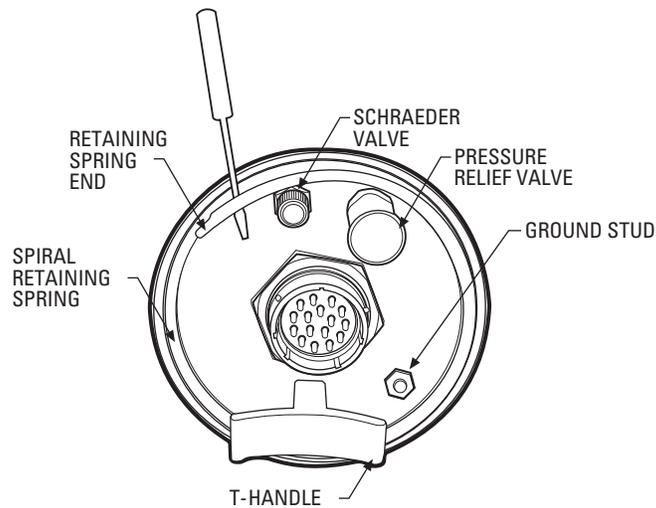

Figure 1. EH8100 Series Enclosure - Rear View
5. Remove the cap from the Schraeder valve (refer to Figure 1).
7. Remove the rear plate of the enclosure (refer to Figure 1) and do the following:
3. Remove the Schraeder valve cap (refer to Figure 1). Affix the self-holding tire chuck to the Schraeder valve.